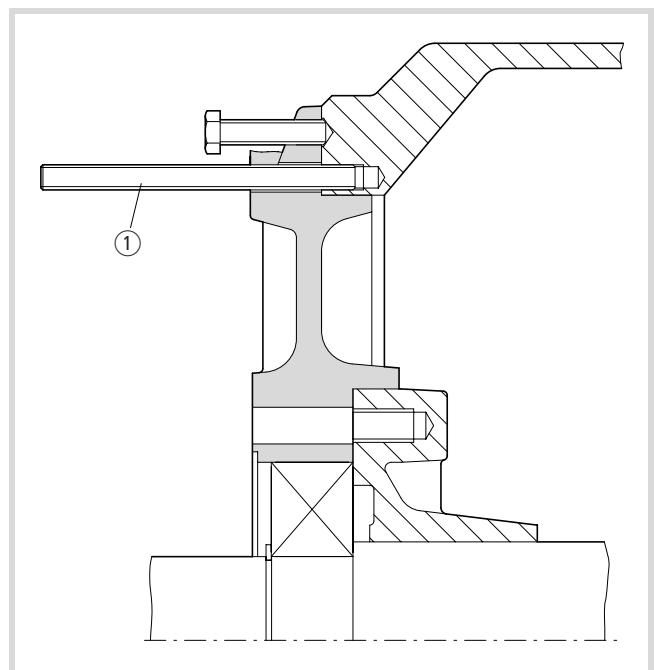

Figure 10: Forcing the end shield from the bearing
- Secure the end shield, for example, with threaded rods (1) in the screw holes.
- Use the forcing-off thread holes to force the end shield from the housing spigot recess and from the roller bearing (→ Fig. 10).